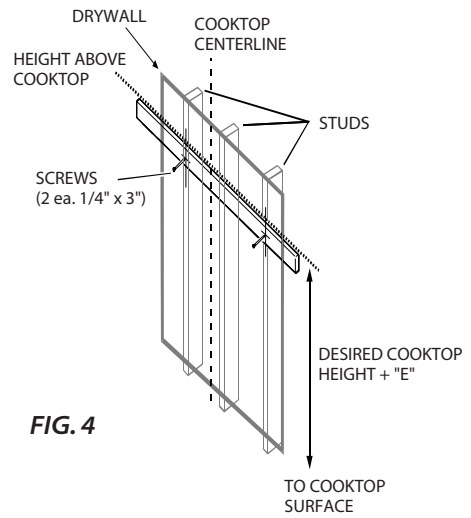

FIG. 4
After the hood installation height has been determined, draw a horizontal line at a distance above the cooktop equal to the desired hood installation height plus dimension "E" (see Table on Figure 4).
4. Find studs behind the drywall by tapping the wall or using a stud finder. Locate one stud on either side of the cooktop centerline to use for mounting the wooden bracket as shown in Figure 4.
7. Use 2 to 4, 1/4" x 3" flat head wood screws to attach the bracket to the wall as shown in Figure 4. For support of longer hoods, use three or four studs as available. Countersink the heads to prevent interference with the hood.